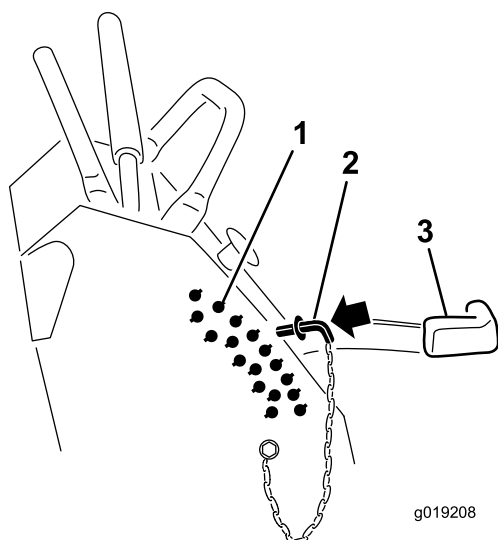

Figure 26
2. Select a hole in the height-of-cut bracket corresponding to the height-of-cut desired and, insert the pin (Figure 26).
3. Lower the height-of-cut lever to the pin (Figure 26).